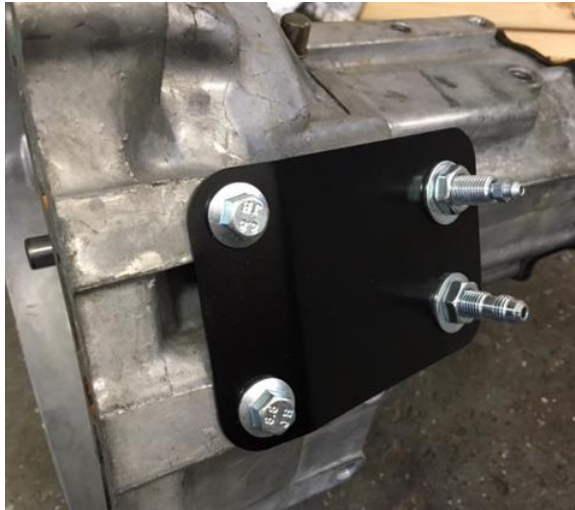

Figure 13 – New Clutch Fittings
10. Attach the clutch line mounting plate (Part # G730001) to the transaxle using the M8 flanged bolts (Part # G1010005). Leave them hand tight until all the lines and throw-out bearing is installed. (See Figure 13)
12. Install two 3/8 washers (Part # 1000414) and two 3/8-24 nuts (Part # 1000380). When done installing the lines, tighten all fittings and hardware. (See Figure 13)